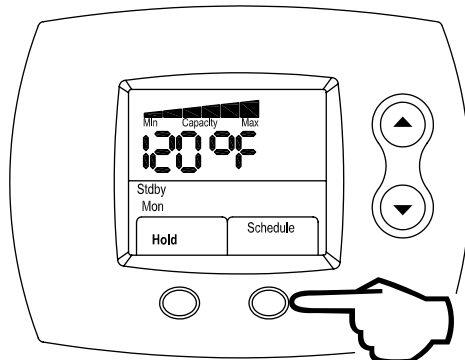

Figure 108
Step 3: To exit a Permanent Hold, press the **RIGHT** (Schedule) button, as shown in Figure 108.